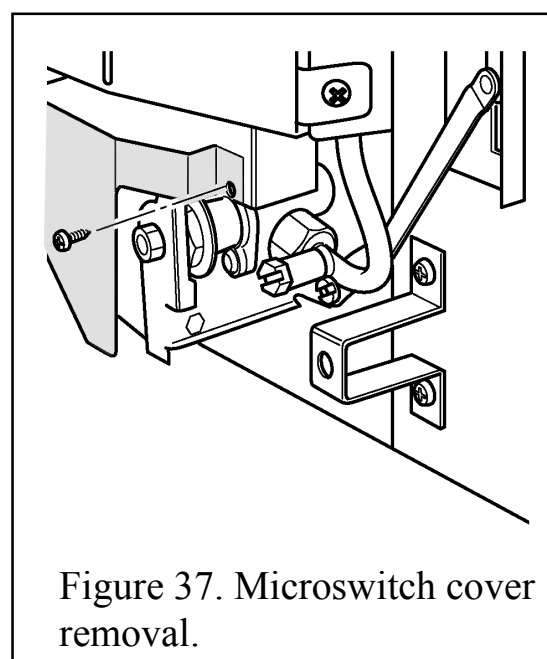

Figure 37. Microswitch cover removal.
See figures 37 & 38.
2. Detach the microswitch cover by removing one screw and pulling clear of the location lug. See figure 37.
See figures 37, 38 & 39.